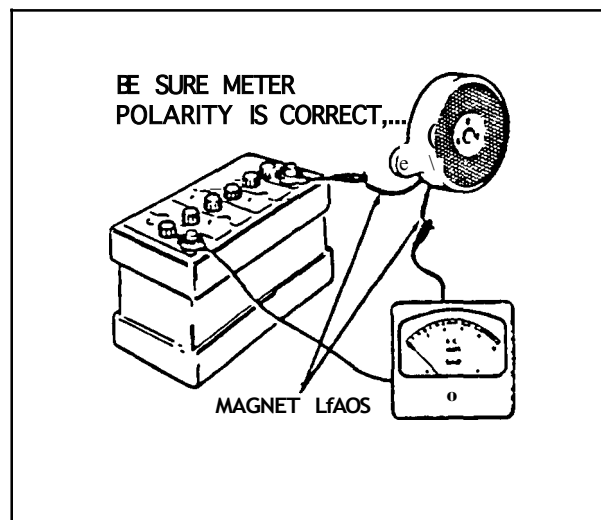

Fig 4
- d. Reconnect magnet as shown in Figure 4.